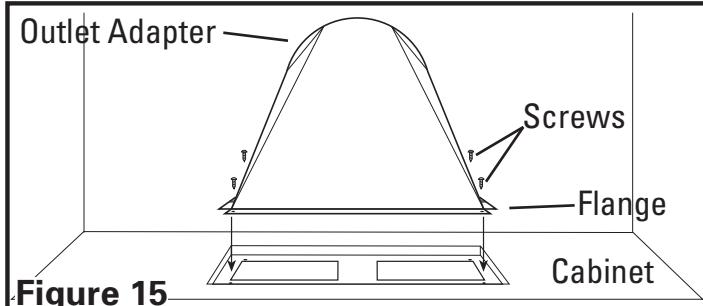

Figure 15
- Install the proper sized outlet adapter (available separately) to the hood by sliding it down into the hole cut earlier and matching up the four holes on the flange of the adapter to the four corresponding holes on the hood and secure in place with the provided screws. Ensure an airtight seal around the adapter by securing all connections with ducting tape (**Figure 15**).